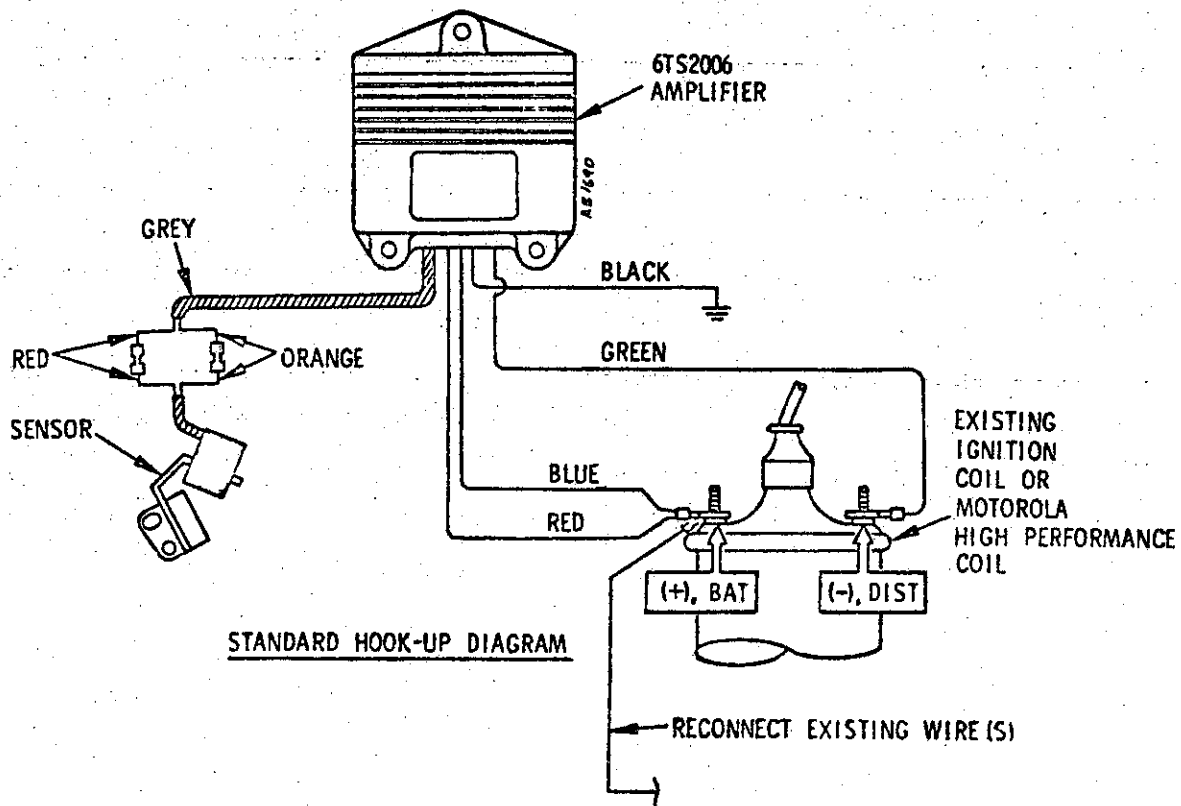
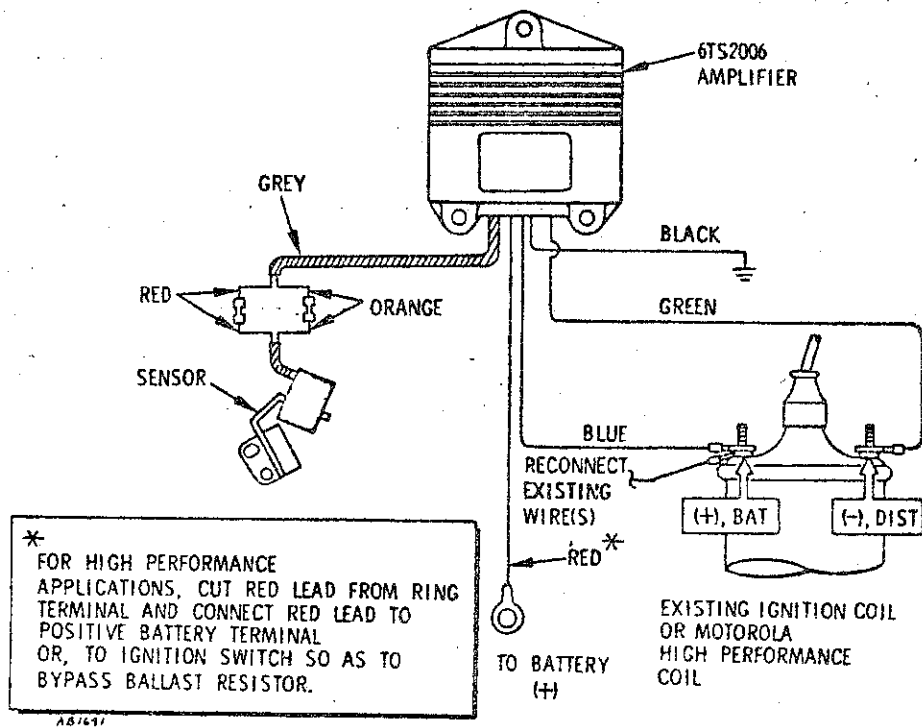

FIGURE 2
FIGURE 3
WIRING INSTRUCTIONS (Figure 2)
1. Route wires from amplifier to the ignition coil and distributor as indicated by the hook-up diagram in Figure 2. Route wires along existing har-
3. Connect blue/red wire to positive terminal (marked either "+" or "BAT") of ignition coil. Connect green wire to negative terminal (marked either "-" or "DIST") of ignition coil. See Figure 2. For high performance applications, see Figure 3. A special high performance coil is available for either hook up. See your dealer for more information.